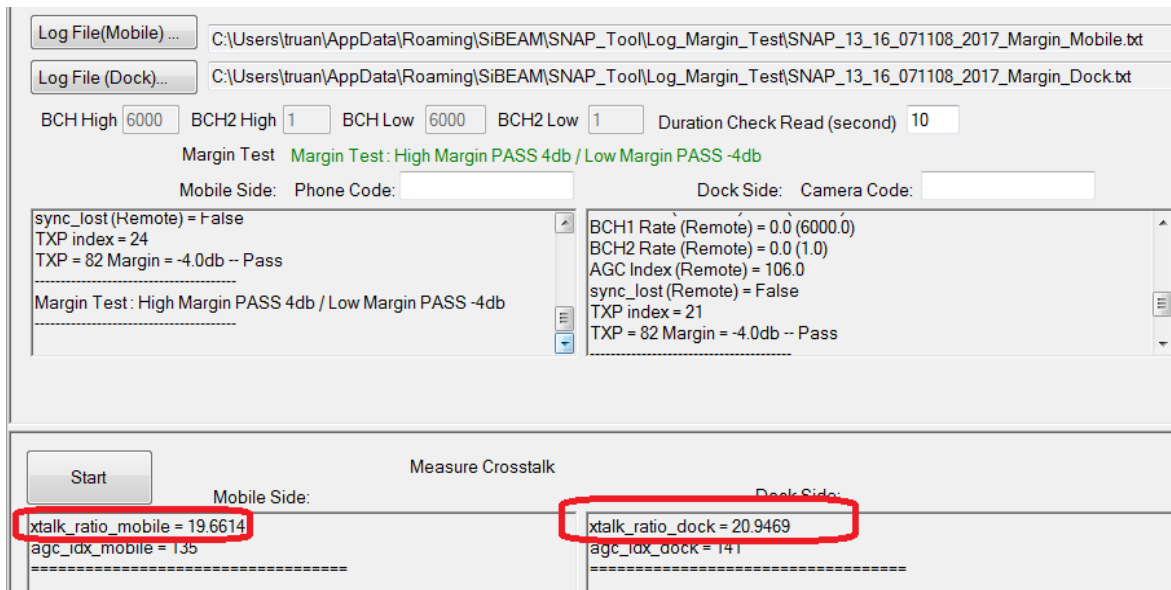

Figure 10.6. Snap_tool RF Link Info Page Crosstalk Result
4. Crosstalk ratio from the **RF Link Info** page (Figure 10.6) is used to check the unwanted signal level.